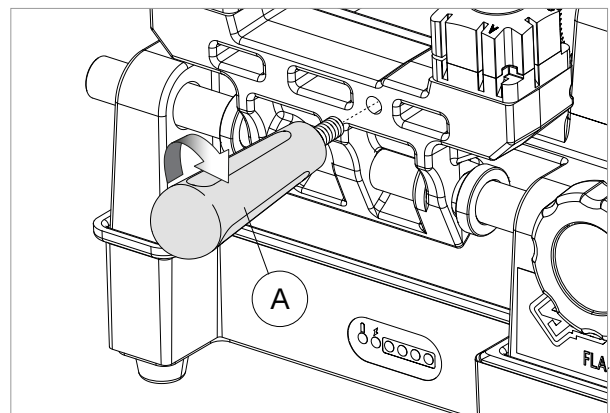

Fig. 12
Screw the handle (A) onto the carriage (Fig. 12).